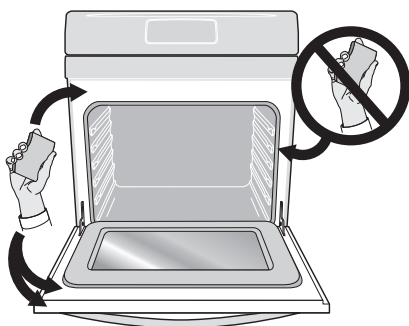

Figure 41: Oven door area to clean and not clean (gasket).
- Clean any soil from the oven frame, the door liner outside the oven door gasket and the small area at the front center of the oven bottom (Figure 41). These areas heat sufficiently to burn soil on. Clean using soap and water prior to starting Self Clean.
- Do not clean the oven door gasket (Figure 41). The woven material of the oven door gasket is essential for a good seal. Care should be taken not to rub, damage or remove the gasket. Do not use any cleaning materials on the oven door gasket. Doing so could cause damage to the door gasket.